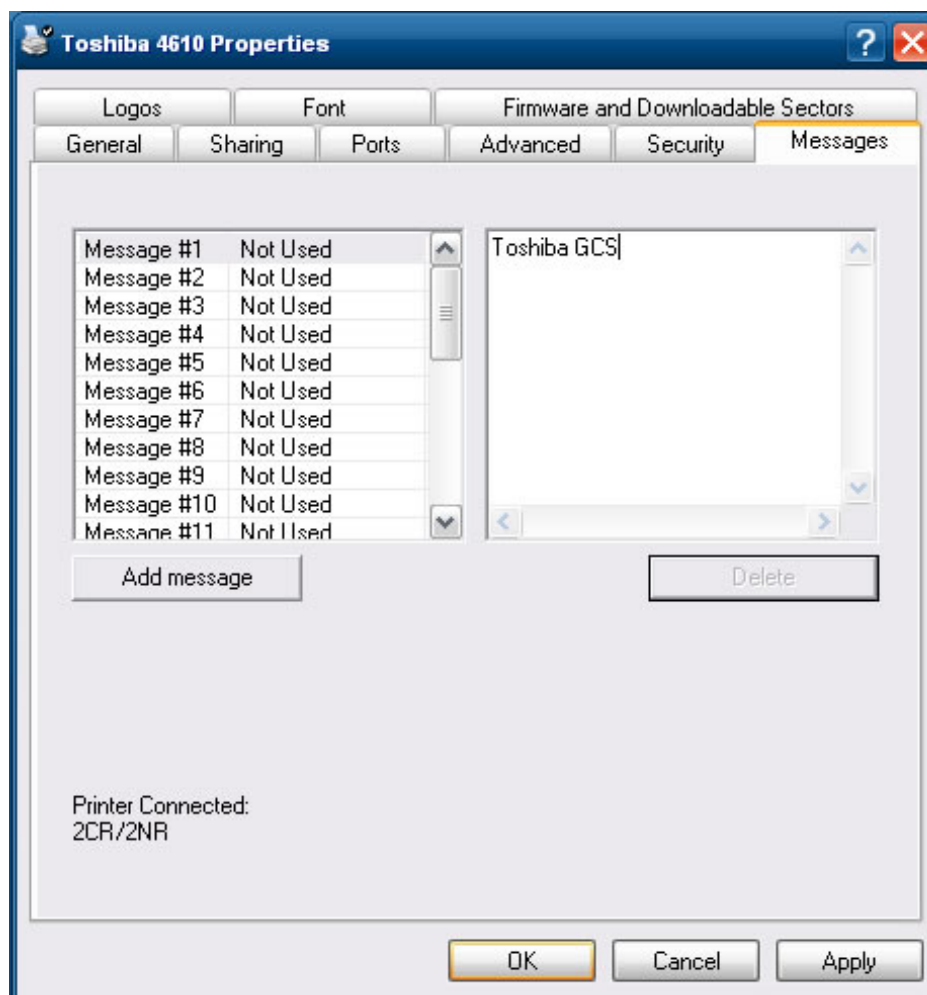

Figure 44. Creating a message (2 of 2)
5. Type your message in the box to the right of the Message slots list (see Figure 44). The maximum number of characters in a message is 255.